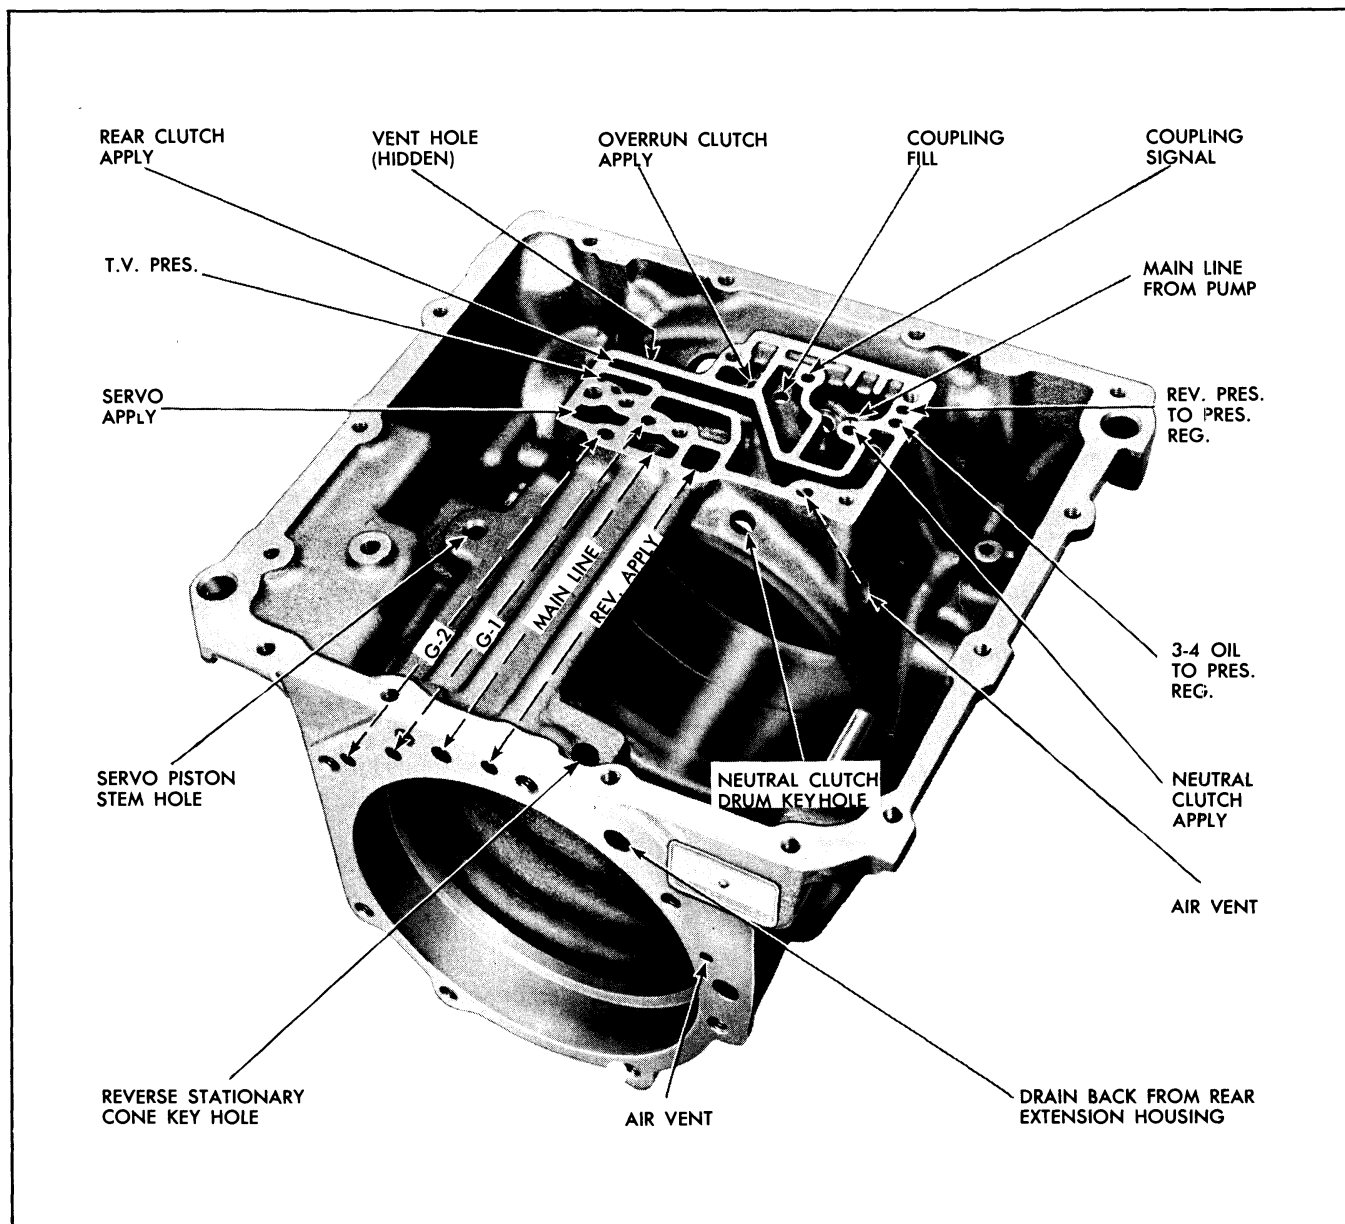

Fig. 7D-68 Passages in Case
1. After the case has been thoroughly cleaned, blow out all passages in case (Fig. 7D-69) with compressed air using blow gun J-8124-01.